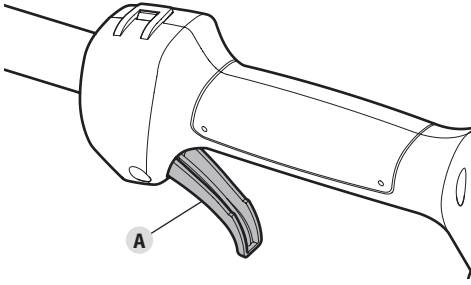

Fig. 15
4. Squeeze and hold the throttle control (Fig. 15-A).
1. Release the throttle control (Fig. 15-A) and allow the engine to idle.